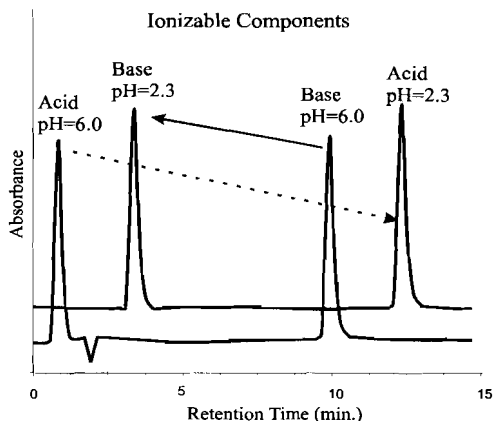

Figure 5-3. Effect of pH of the mobile phase on the retention of ionizable compounds.
fully protonated region (A) for bases and in the neutral region (A) for acids (refer to Figs. 5-1 and 5-2). Figure 5-3 illustrates the change in retention with change in pH.